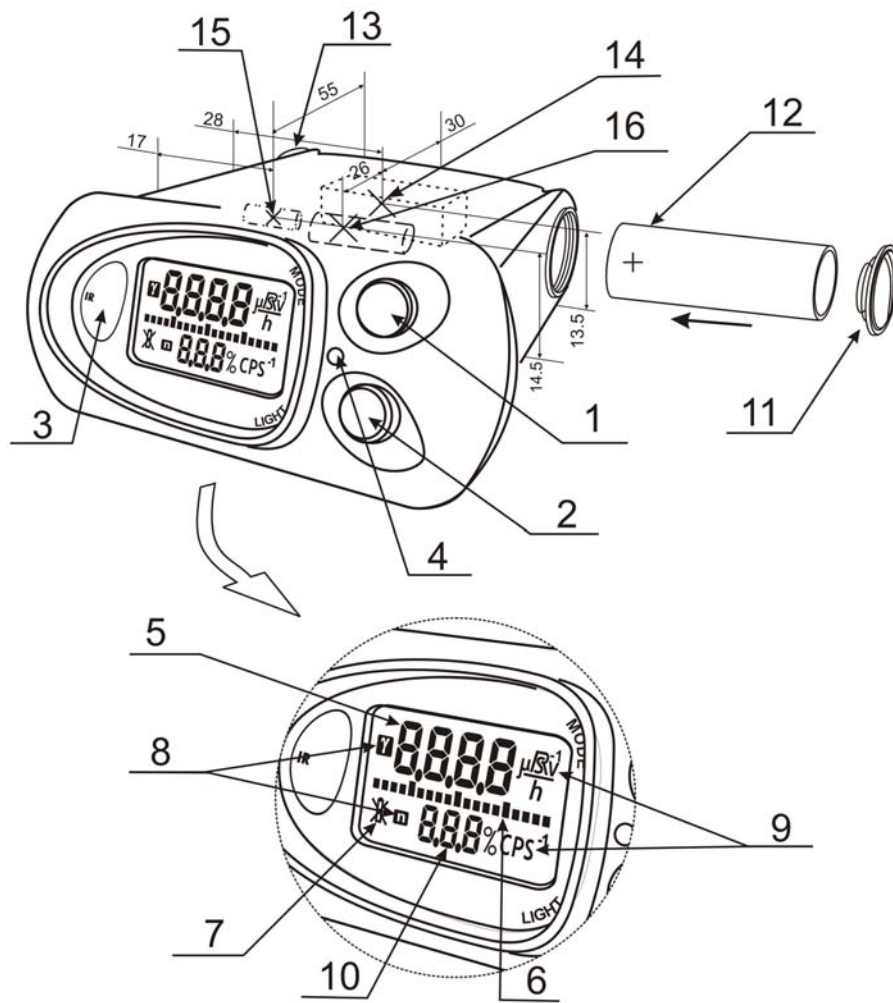

Figure 6.1
For installation of the supply cell a cover of the supply section is to be unscrewed (11) (figure 6.1) with the aid of a special spanner included to the supply set; to be installed to the supply cell by observing polarity (the cell electrode marked with "+", must be directed inside the indicator); the cover of the supply section is to be restored.
Two push buttons for the device control are located on the front panel of the indicator: (MODE) and (LIGHT), a liquid crystal display (LCD), a window of the IR transmitter-receiver, a light diode (LED), figure 6.1.